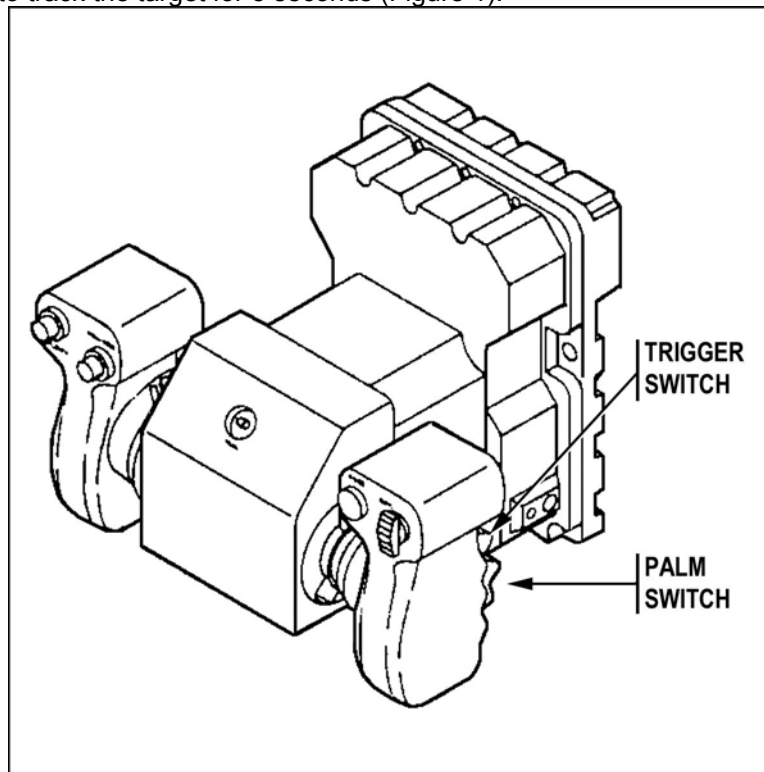

Figure 1. Gunner's hand station.
- b. Immediately resqueeze the palm switch and the trigger on the gunner's hand station (GHS) and continue to track the target for 5 seconds (Figure 1).